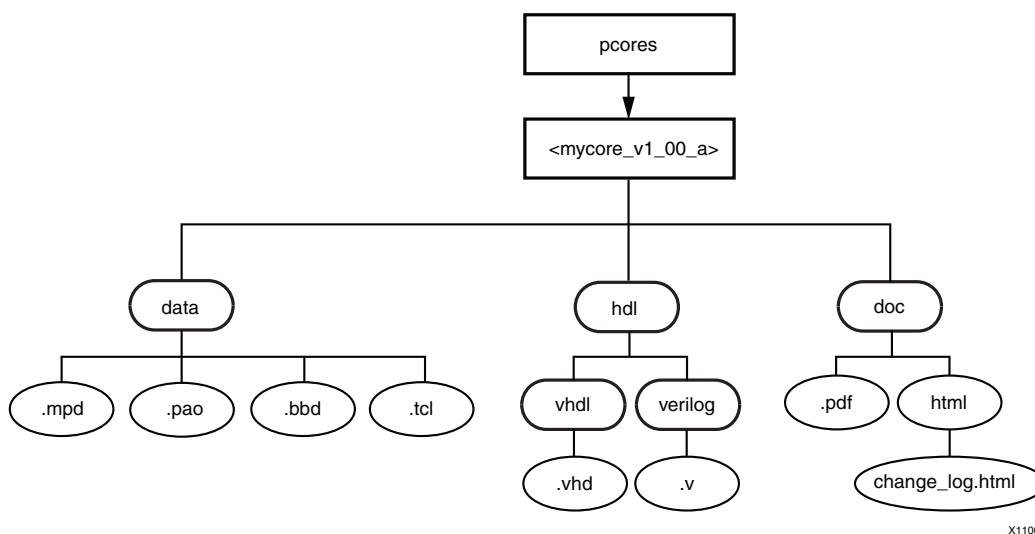

Figure 1-2: pcore Directory Structure
3. Search `XILINX_EDK/hw/<Library Name>/pcores`. Figure 1-2, page 10 shows the pcore directory structure.